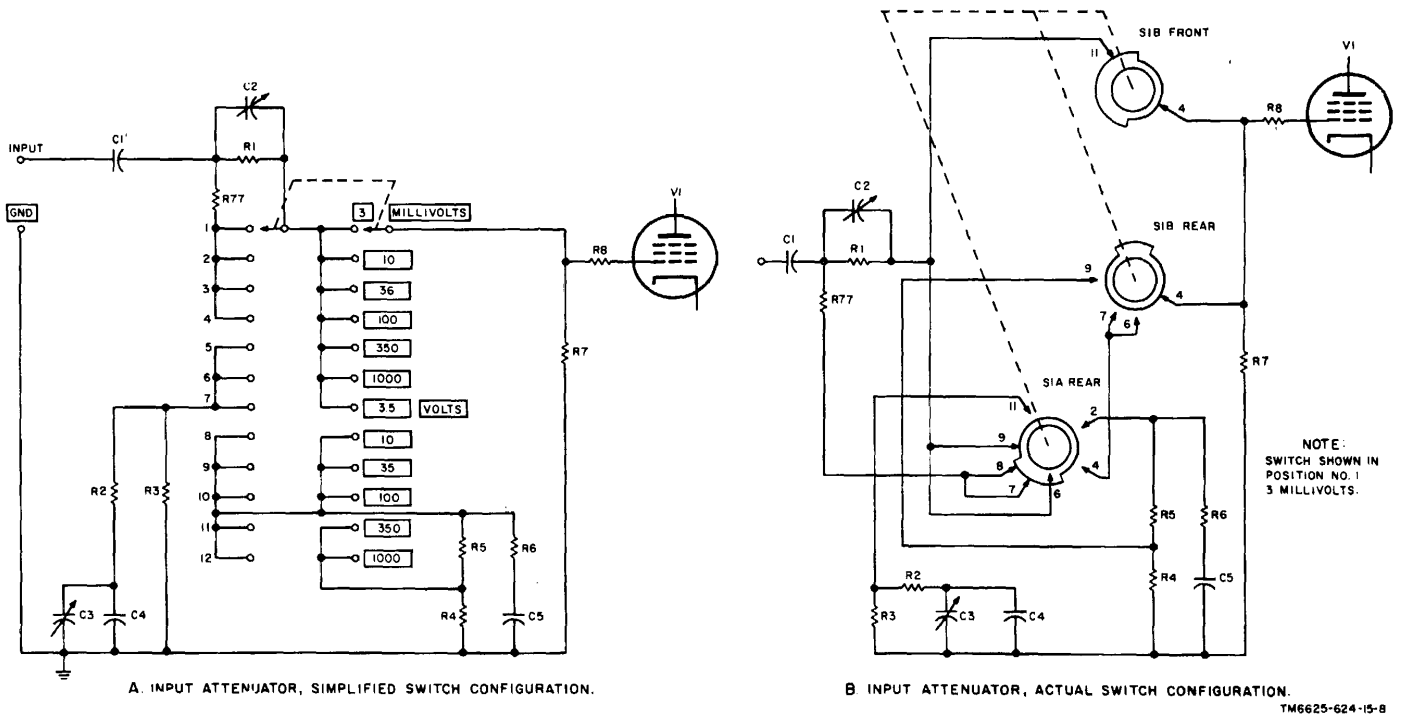

Figure 5-2. Input attenuator switching.
block is a network of resistors and capacitors which are connected to ganged wafer switch assembly S1A, S1B, S1C, and SID. The attenuator circuit will provide an insertion loss to the input signal which will establish the test set meter ranges (fig. 5-2). The input signal to be measured by the instrument is applied to the signal input and GND binding posts. The signal characteristics may be symmetrical or nonsymmetrical.
a. Input Attenuator (fig. 5-2 and 5-4).
- (1) The waveforms to be measured are applied through test leads to the input and GND binding posts.